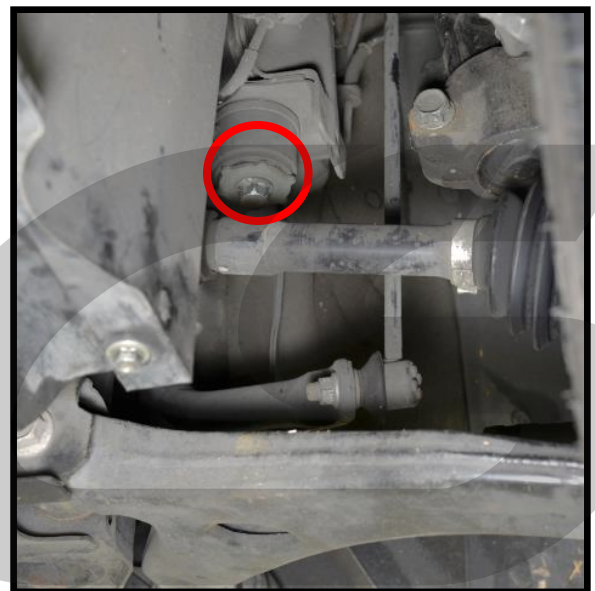

Figure 2d
- e) Remove the two (2) 17mm bolts (one shown by the red circle in Figure 2d) using a ratcheting wrench, 12" extension and 17mm socket. At this point, the sub frame should drop down.